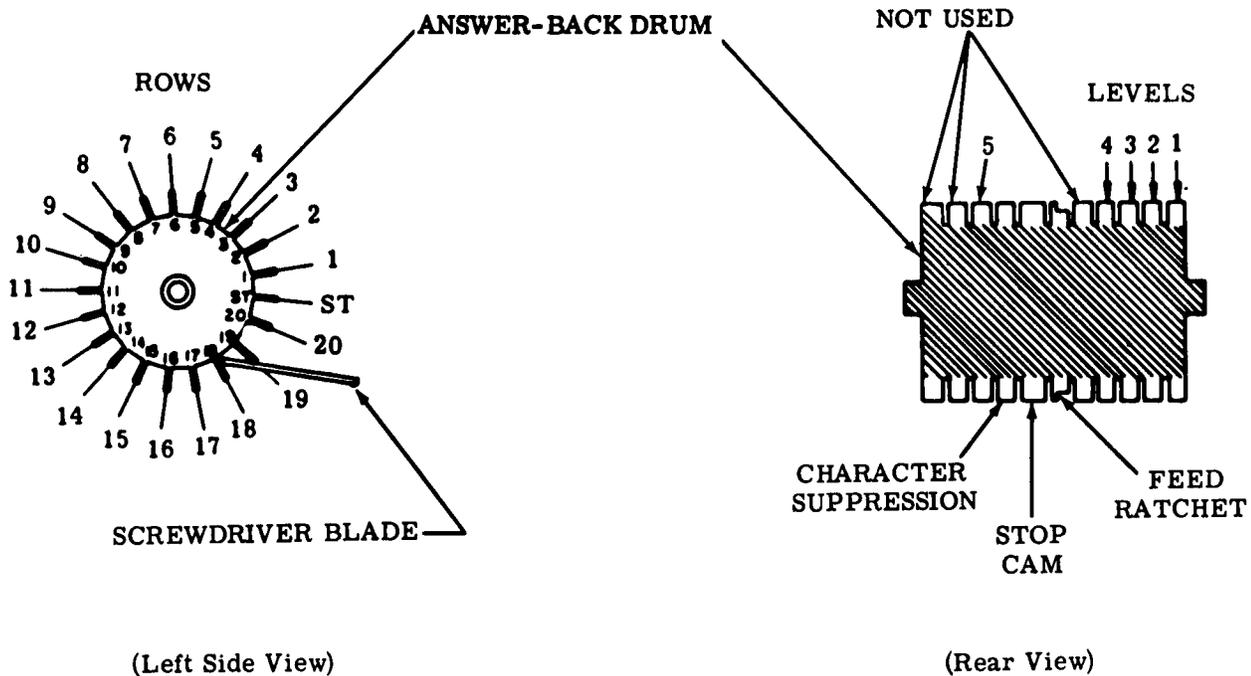

Figure 5 - Answer-Back Drum
- (b) Code the answer-back drum in a counterclockwise direction starting with row no. 1 (Figure 5).
- (c) A particular character is coded by either retaining or removing tines within a row, as illustrated in Figure 5. A tine may be removed by either of the two following methods:
Method 1: Place the end of a screwdriver blade at the base of a tine in the row previously coded. Press the side of the blade against the top of the unwanted tine until the tine breaks off. Figure 5 illustrates this method — pressure applied to base of row no. 18 and against top of adjacent tine being removed from row no. 19.
- (e) For short sequences, code the drum for either 2- or 3-cycle operation by removing the appropriate tine(s) as indicated in Figure 5.